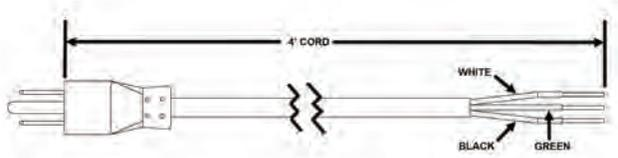

Figure 4-3
3. Remove 4X screws on junction box cover inside the tower. Retrieve 4' temporary power cord from the parts kit. Route stripped end of wire into the junction box. *See Figure 4-3.*